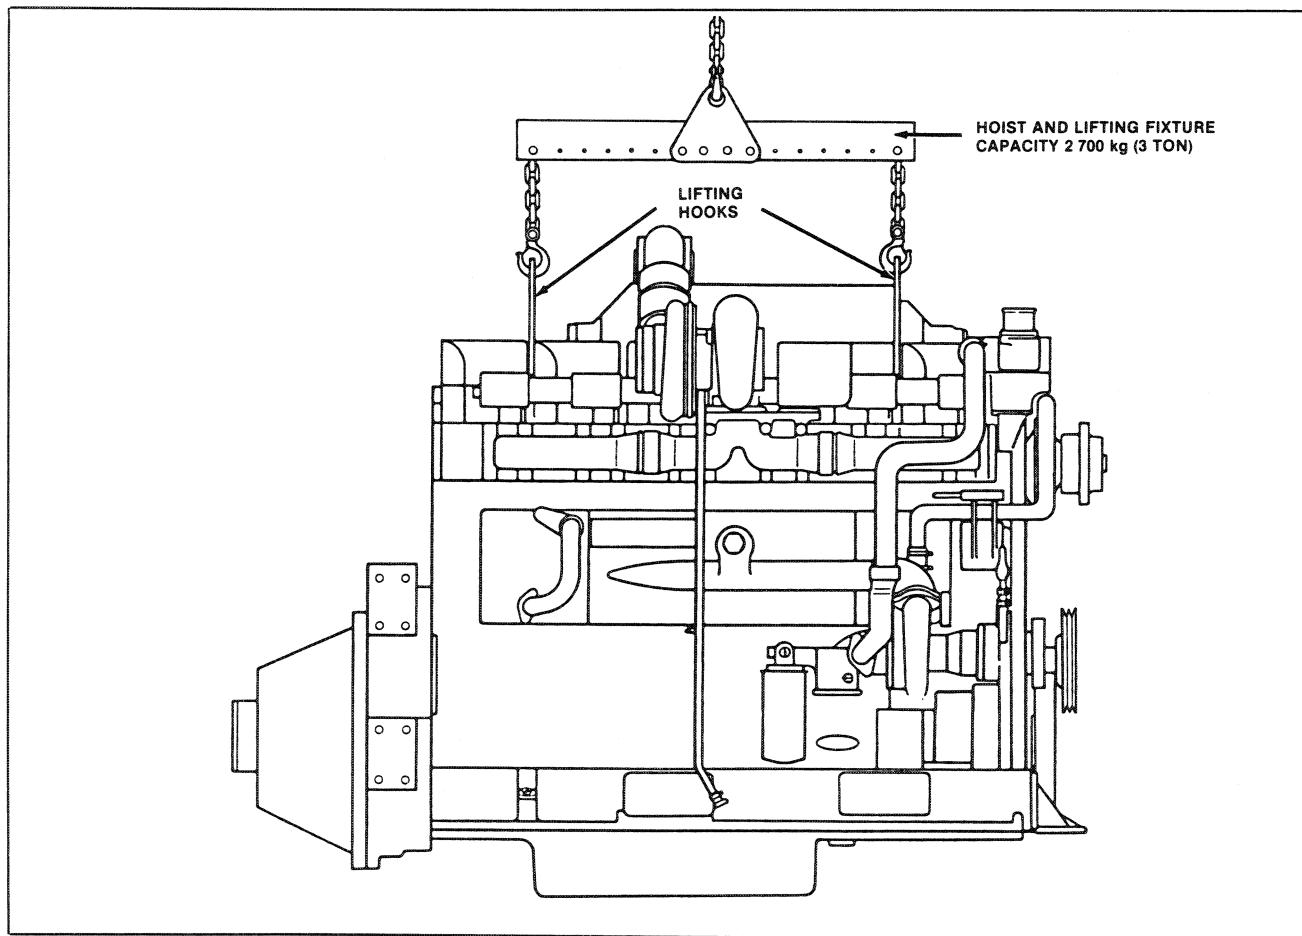

FIGURE 2-8: Engine Lift System
36. Secure lifting hooks to No. 1 and No. 5 cylinder head lift points (Figure 2-8). Attach lifting fixture.